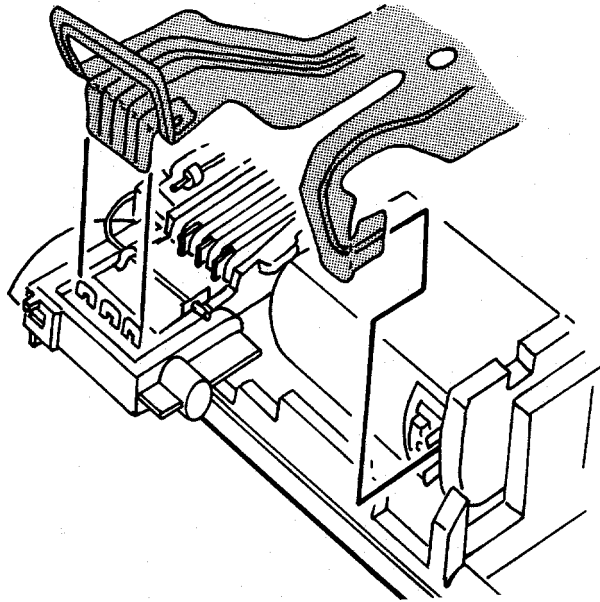

Fig. 23 Removing Flex from Contact Support Block, Motor and Wire Block
27. Using Universal Flex Removal Tool, remove Flex from Contact Support Block and Motor (Fig. 23). Now lift Wire Block Assembly off the Cone and remove the Flex from the Wire Block (Fig. 23).